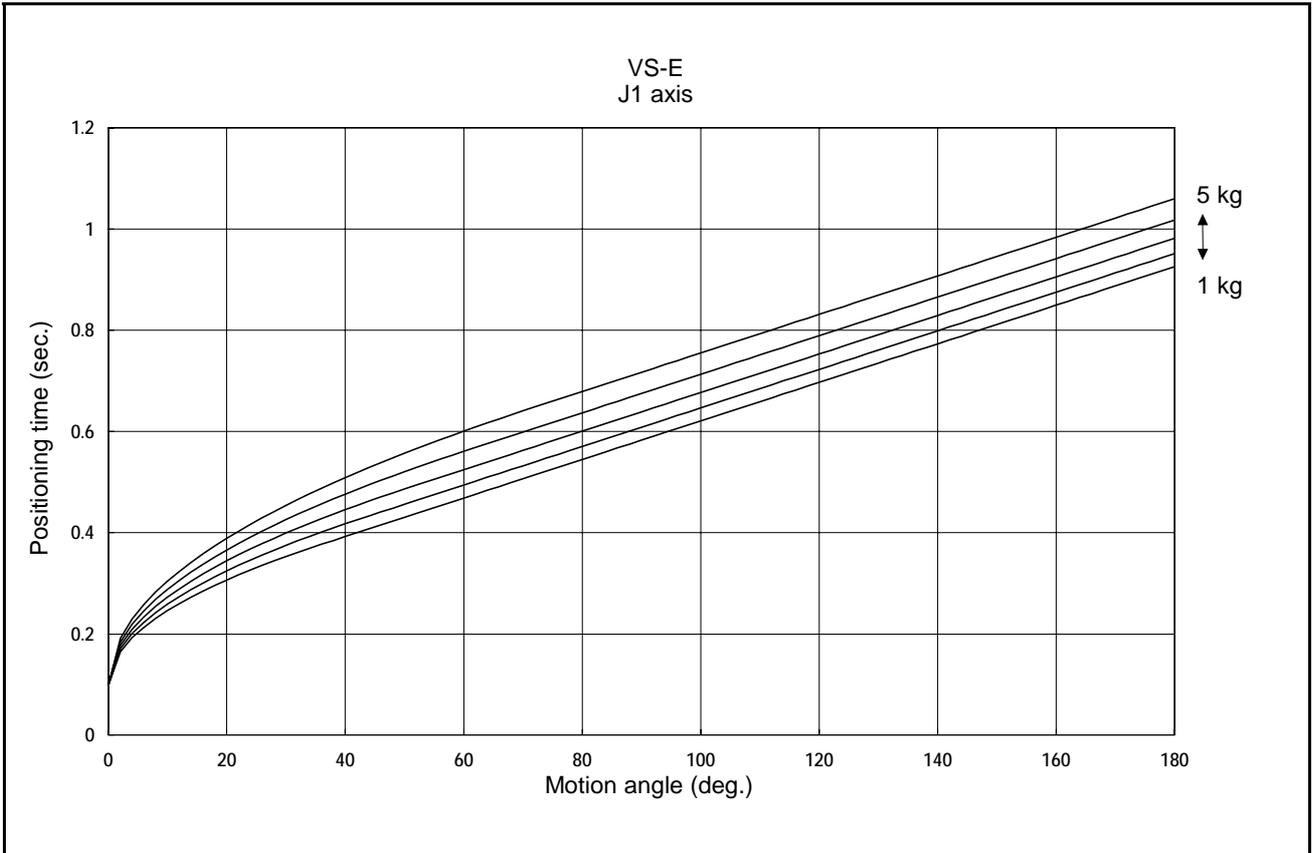

Figure 1-33 J1 Axis [VS-6556E]
1. Figures 1-33 to 1-42 show the positioning times used to calculate the cycle time.